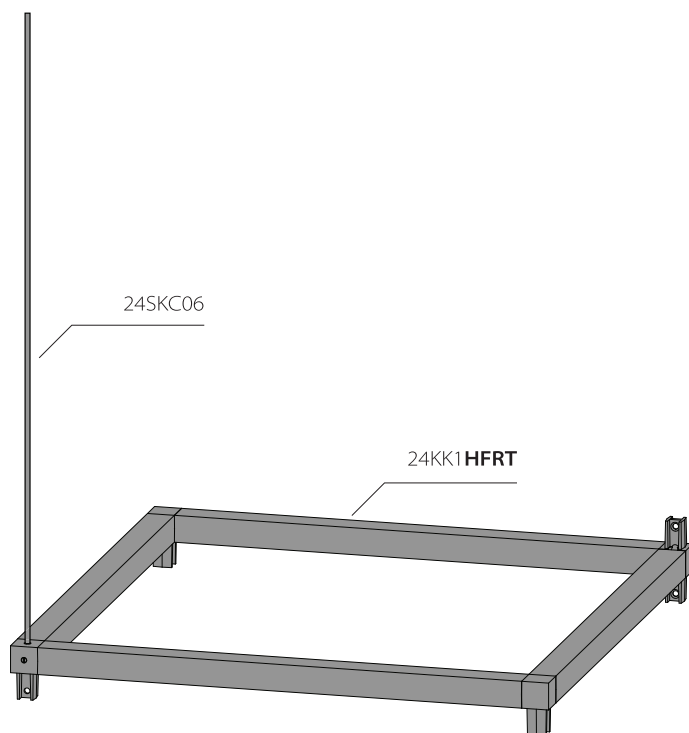

Fig. 4a
- 2a. Install 24KK1HFRT to 24KK1LPAA assembly as shown in Fig. 4a. Install 24SKC06 into hanging connectors and tighten set screw with included Slotted Screwdriver.